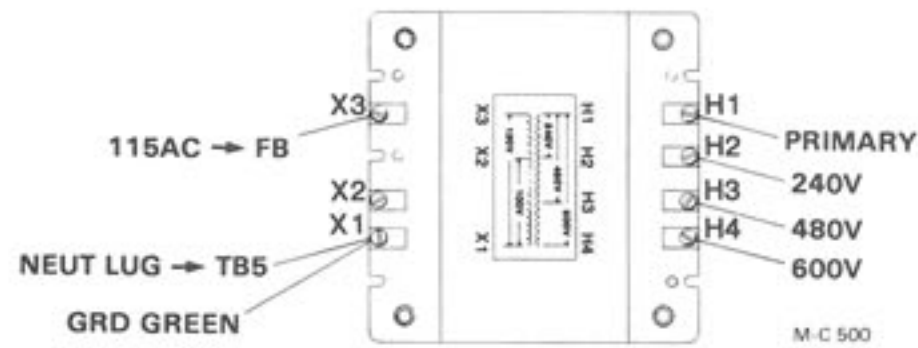
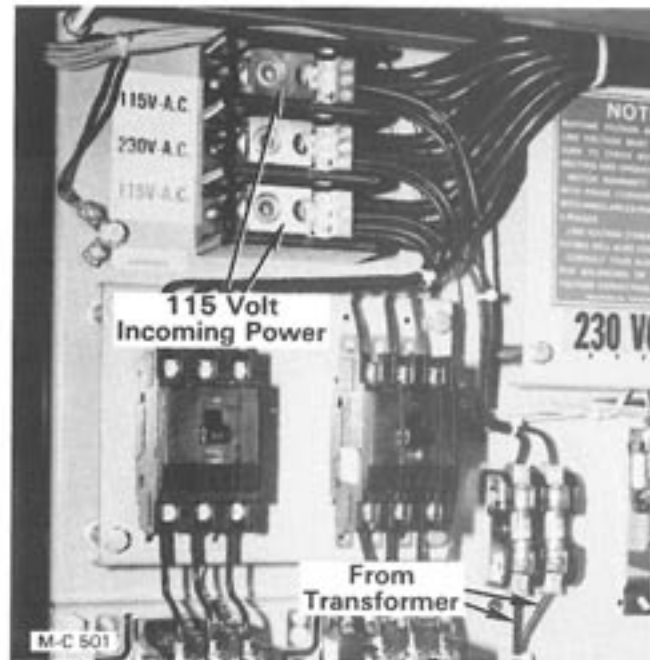

Figure 20 - Transformer Wiring
Figure 21 - Incoming Power to Transformer
Transformer (see Figure 20 & 21)
4. Connect a 12 Ga. black wire to terminal H1 on the transformer, see Figure 20. Connect the other end of this wire to the fuse block or holders that were installed in the lower cabinet, see Figure 21. Install a 12 Ga. black wire between the fuse block or holder and one of the lower voltage incoming power terminals in the lower cabinet, see Figure 21.
5. Connect a 12 Ga. black wire to terminal H2, H3 or H4 on the transformer depending on the operating voltage of the dryer, see Figure 20. Connect the other end of this wire to the other side of the fuse block or other fuse holder in the lower cabinet, see Figure 21. Install a 12 Ga. black wire from the fuse block or holder to the other lower voltage incoming power terminal.